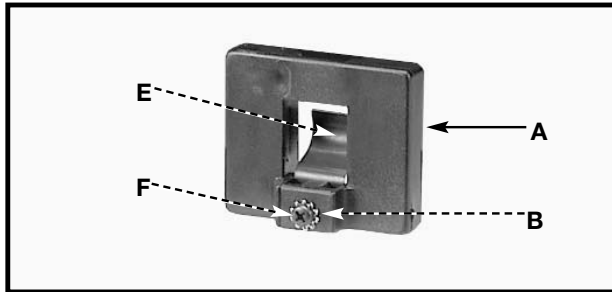
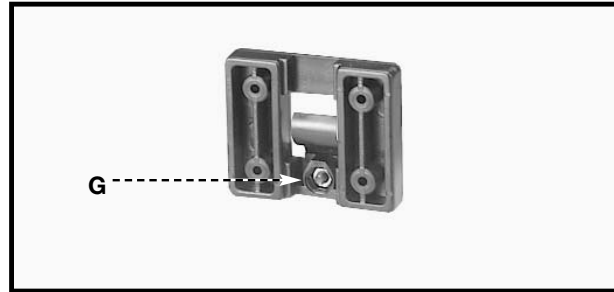

Fig. 5
Fig. 6
1. Attach the spring clip (E) Fig. 5 to the miter gauge holder (A) using an M4x.7x10mm pan head screw (F), 3/16" external tooth lockwasher, (B) and M4x.7 hex nut.
NOTE: The hex nut (G) Fig. 6 will fit into the recess at the back of the miter gauge holder (A) Fig. 5 to keep the spring clip (E) secured to the miter gauge holder.